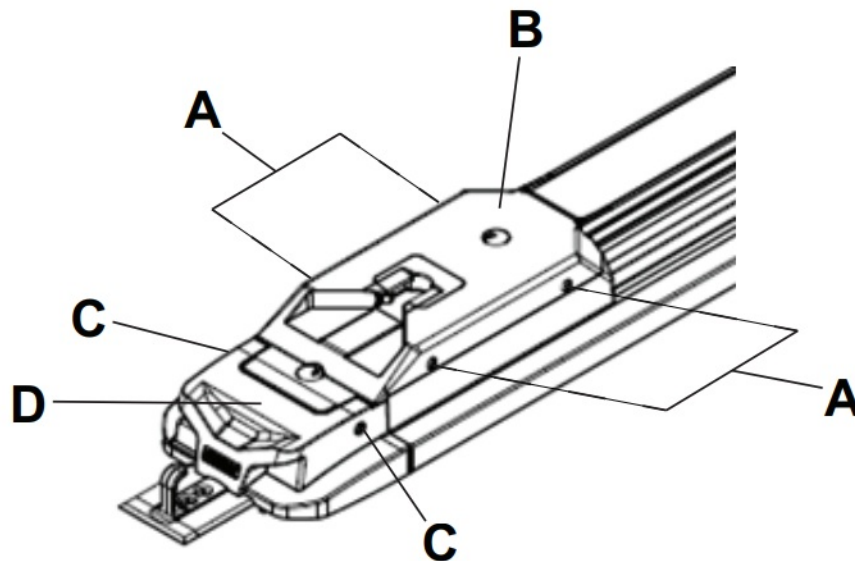

Figure 8 – Foot end cover assembly
1. Using a T27 Torx driver, remove the four socket head cap screws (A) that secure the foot end cover assembly (B) to the transfer (Figure 8). Save the screws.
2. Using a T27 Torx driver, remove the two button head cap screws (C) that secure the foot end cover assembly to the foot end nose assembly (D) (Figure 8). Save the screws.